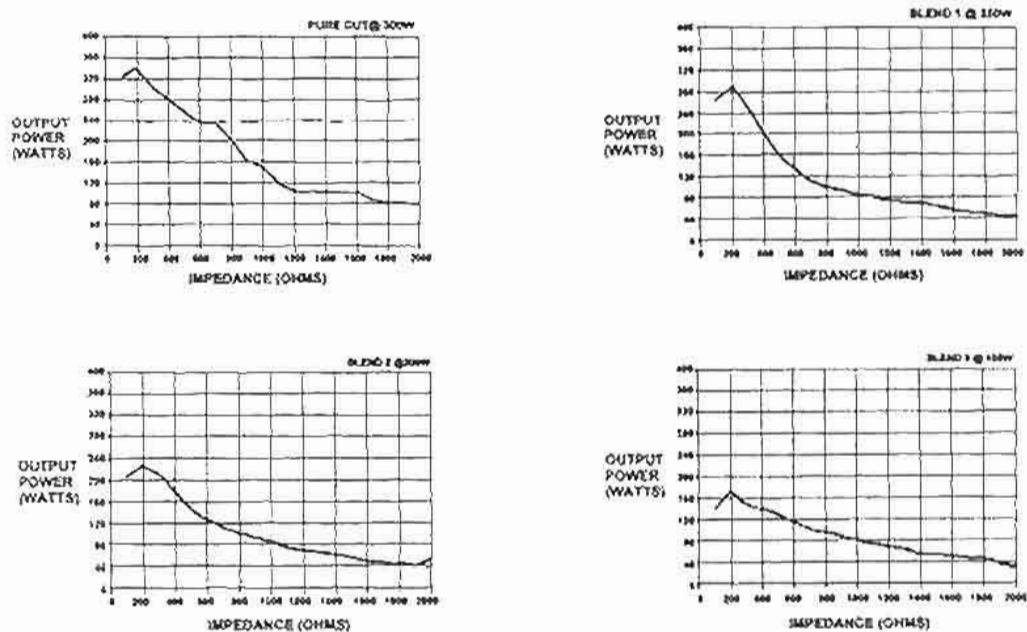
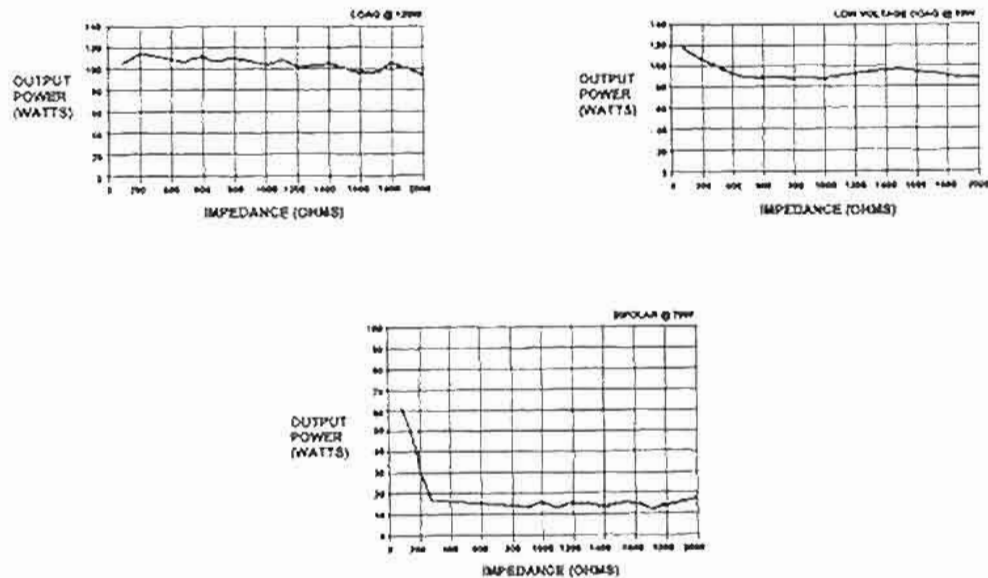

Figure 3-22. CUT waveforms.
Figure 3-23. COAG and bipolar waveforms.
c. The graphs (fig 3-22 and fig 3-23) portray the ES apparatus output power versus impedance for all seven electrosurgical modes.